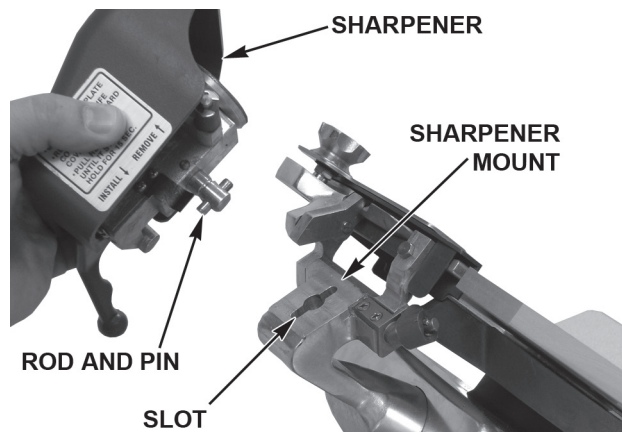

Fig. 6
- The Sharpener (Fig. 6) is mounted on top of the slicer.